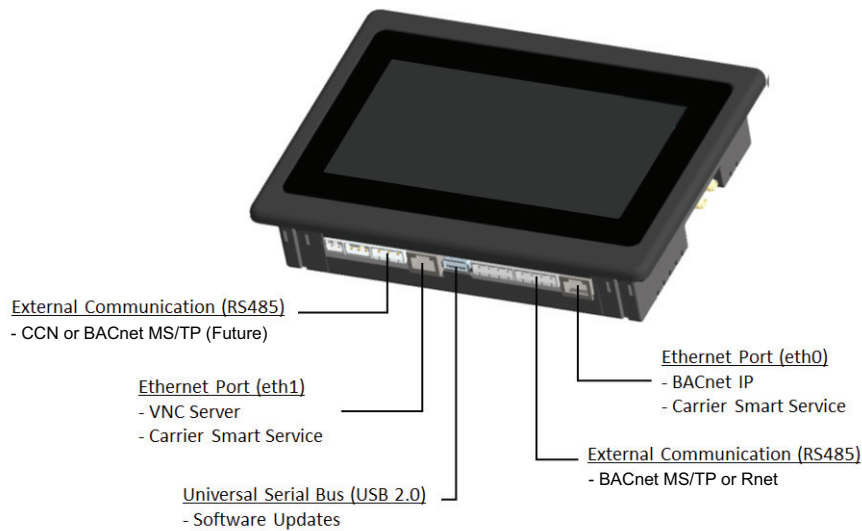

Fig. 63 — Carrier SmartVu™ Touchscreen Display Interface and Connections
50V units are standard with BACnet Internet Protocol (IP) communication using Ethernet. The cabling for this is standard CAT 5 (minimum) cable with RJ45 connector. See Fig. 63 for Ethernet port locations. See Table 16 for ethernet addresses.
The SmartVu touchscreen display is the primary method of interfacing with the controls for set up and equipment start-up. The touchscreen is a capacitive 7 in. LCD that can be activated with a finger, touch compatible gloves, or stylus. Refer to Fig. 63 for display layout and port locations.
The SmartVu controls can be accessed using a hardwired ethernet connection at ethernet port 0 (on the bottom right side of the touchscreen display) and a VNC Viewer, such as RealVNC. Refer to Fig. 63 (SmartVu touchscreen display) for ethernet port 0 port locations. See Table 16 for default IP addresses ethernet port 0.